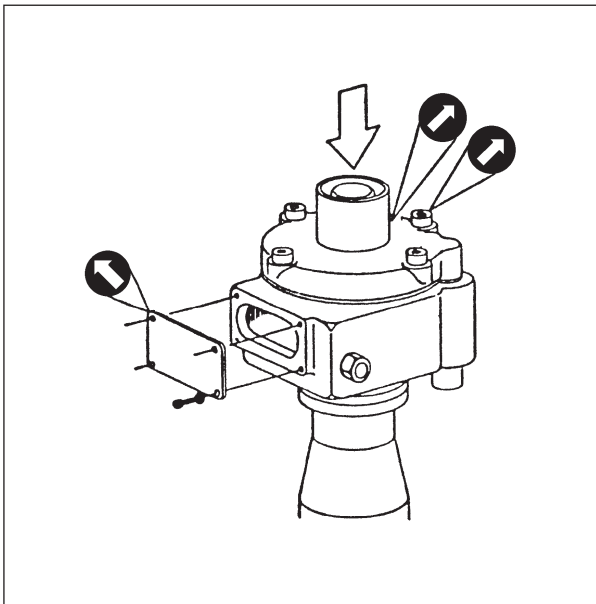

Fig 1.
3) Remove both covers on the housing of the overspeed tripping device, *see fig 1*.